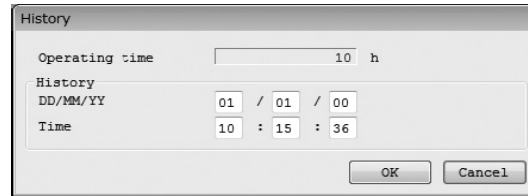

Fig.163
- ① Click the "Maintenance (M)" menu, and then select and click "History" from the "Maintenance xmtr" drop-down list.
- ② The following window will be displayed (Fig. 163).